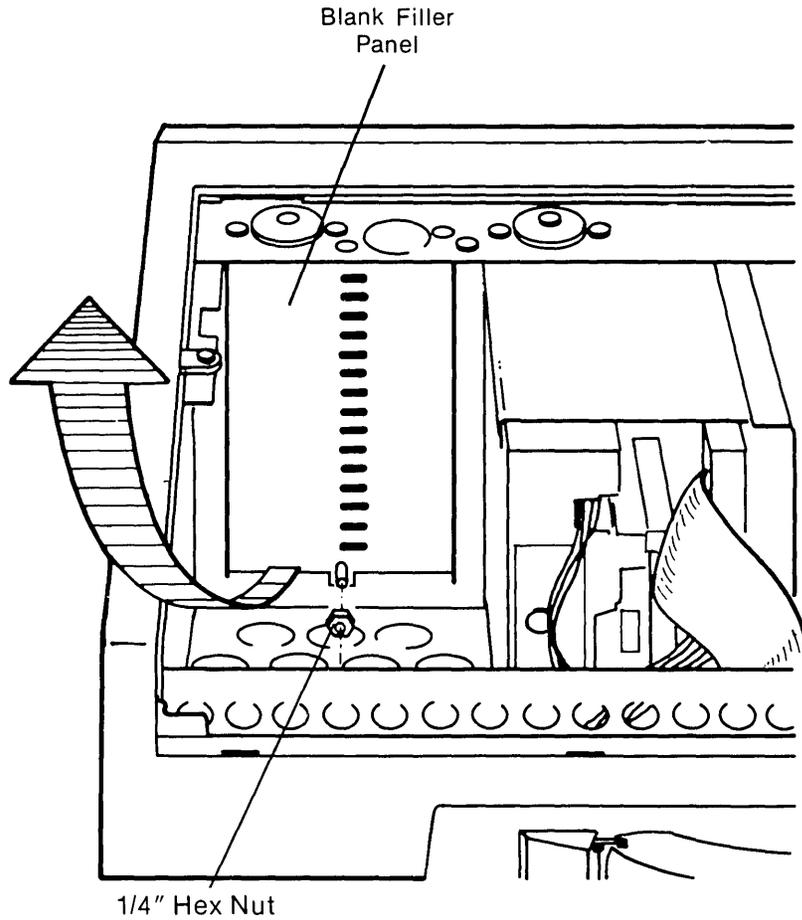

Figure 11-19. Removing the Blank Filler Panel.
8. Remove the blank filler panel from the second disk drive position by loosening the 1/4" nut holding it in from the back side (see Figure 11-19).